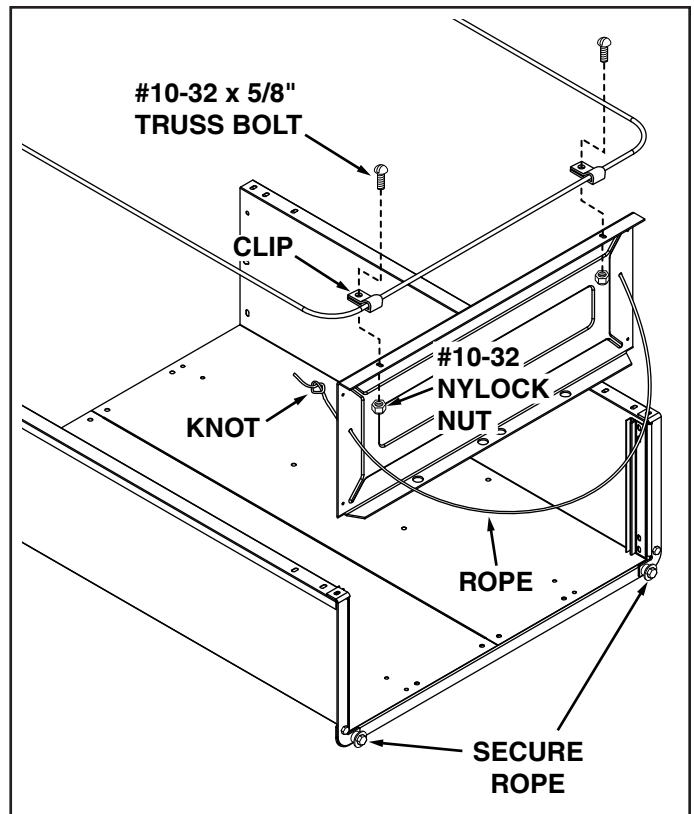

FIGURE 28
13. Slide each end of the rope through the holes in the tailgate shown in figure 28.
14. Tie a knot in the end of each side of the rope to secure the rope in place. Keep knot loose. See figure 28.
16. Attach clips to 3rd lower support rod and fasten them to the tailgate using two #10 x 5/8" slotted head bolts and #10 nuts. See figure 28.
18. Secure tailgate rope around the bolts shown in figure 28. If rope does not keep tailgate held down or rope is too short to secure around bolts, move the knot up the end of the rope to loosen or down to tighten. Once knot is in desired location, tighten the knot to secure it in place.